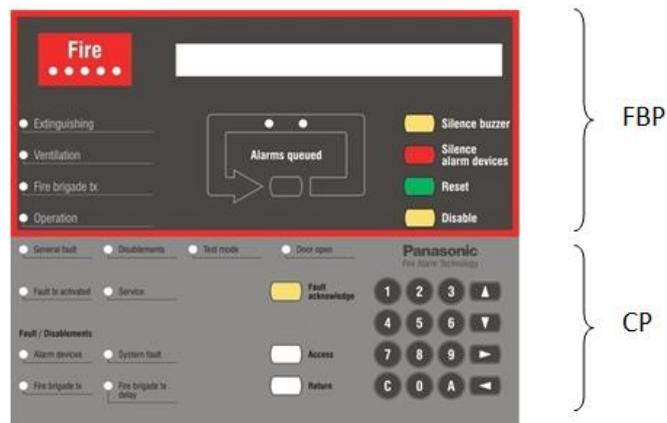

Figure 2 The FT128 Front Membrane.
The Fire Brigade panel (FBP) as shown in Figure 2 forms integral part of the Control Panel (CP) and is used by the Fire Brigade or fire services personnel to inspect which alarm point / zone having activated fire alarm and to take the required operational control of the system.